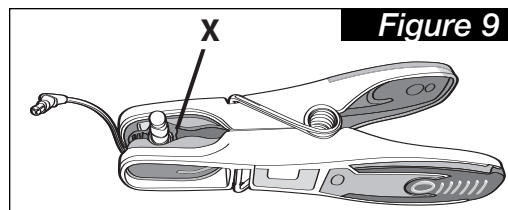

Figure 9
- The inside surfaces of the *Gruz Button Cradle™*. Use a Cotton Swab for this. (Fig. 9, X)
- If the *Gruz Button™* is not round (because the RIC-receiver is rectangular), place the *Gruz Button™* in the *Gruz Button Cradle™* for a few minutes to create a more-round shape. (Fig. 9)